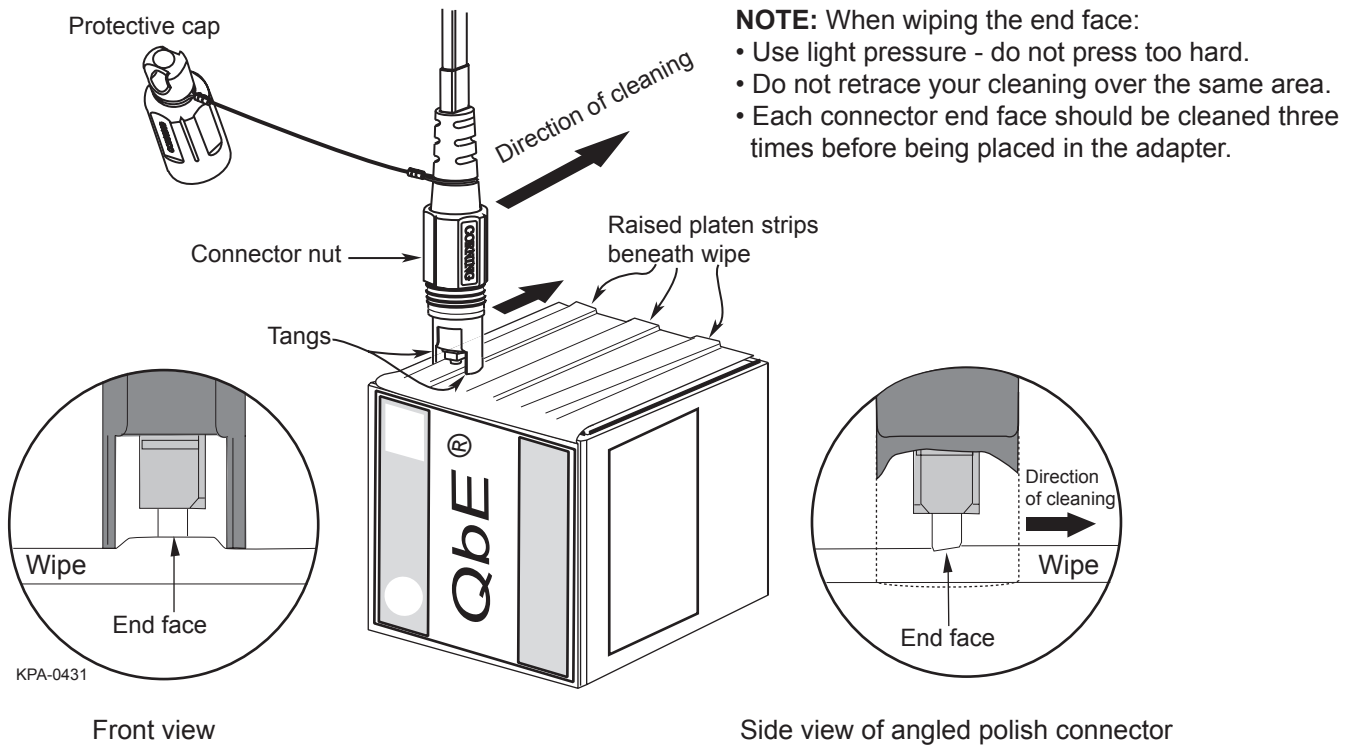

Figure 57
- Step 3:** Align the connector keys so that the connector ferrule end face is centered on one of the three raised strips on the platen. On Premiere connectors, make sure that the angled end face is facing the direction of the cleaning (Figure 57).
- Step 5:** Pull the connector end face lightly over the platen away from the wipe's fold in a smooth linear motion (Figure 57).